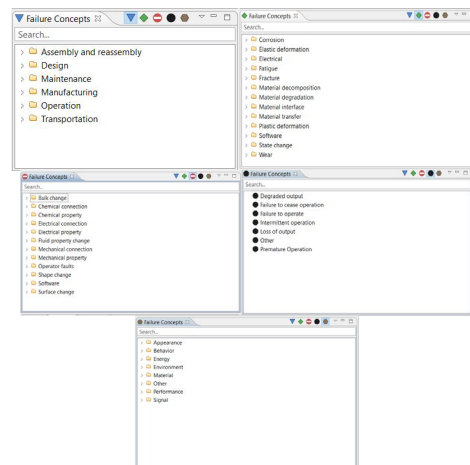

Figure B12: MADE Failure Concepts Tabs
- 2) Populate (or refine) the *failure diagrams* (Figure B11) connected to each element by simply dragging and dropping failure causes, mechanisms, and faults/failure modes from the library of “Failure Concepts” (See Figure B12) into the *failure diagram*. Note: Those items/components that were previously selected from the *Palette* or MADE/User’s *Library* already come with a preset *failure diagram* that can be customized to reflect project needs or conditions.